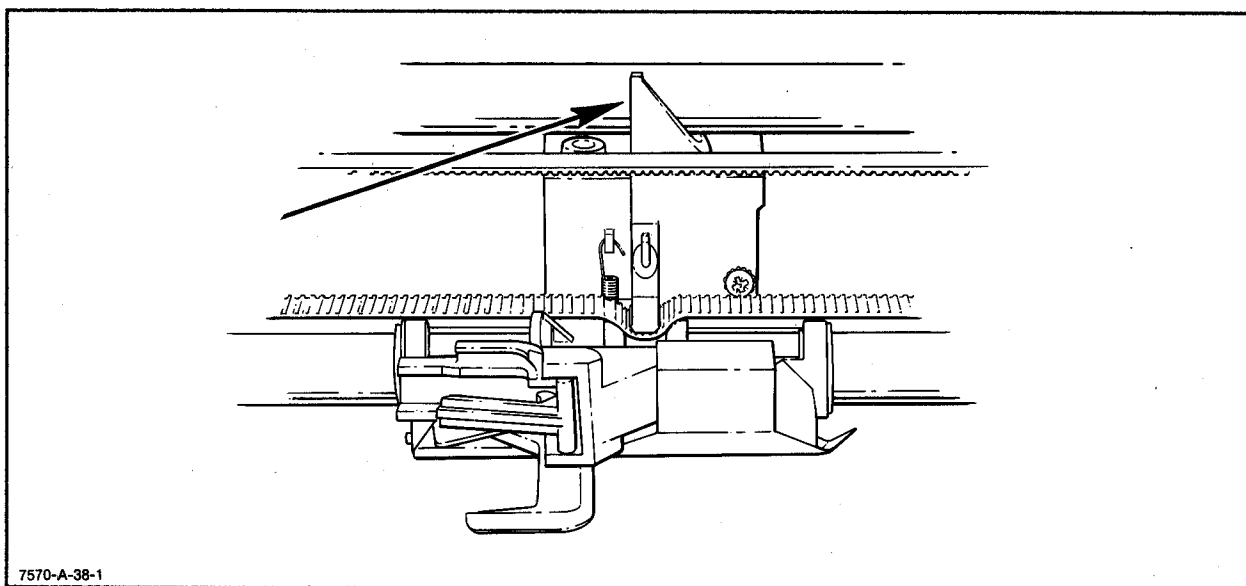

Figure 6-39. Pen Carriage Assembly
c. Install the upper slider rod, assuring that rod is positioned properly in the upper portion of the pen carriage assembly. See Figure 6-39.